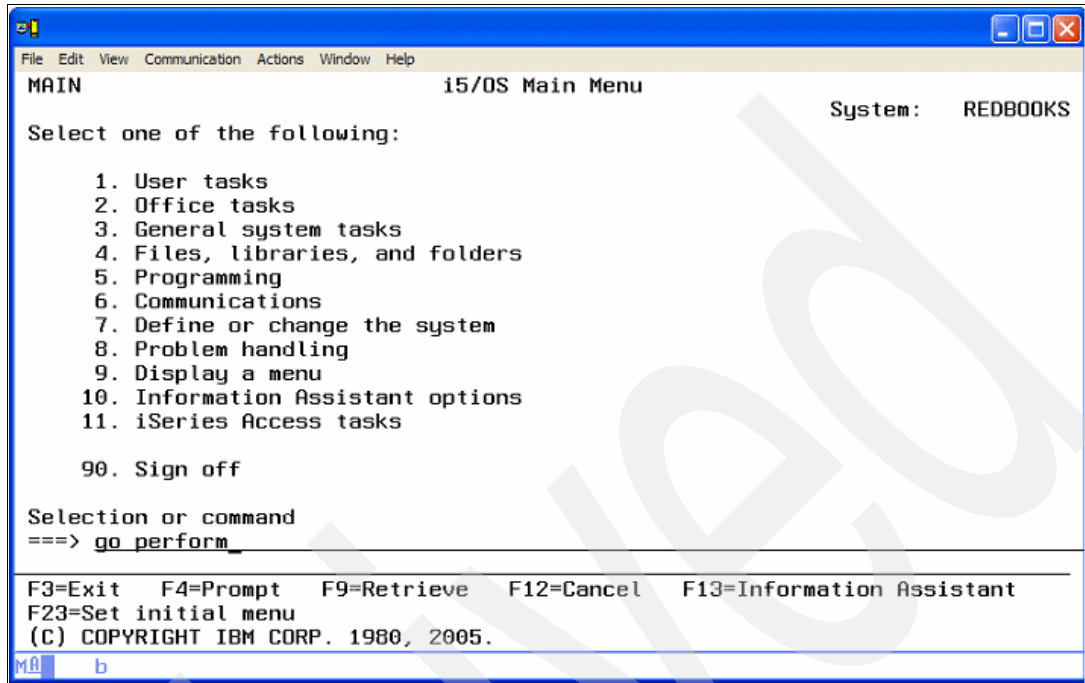

Figure A-18 Performance tools invocation
1. Enter the **go perform** command to open the Performance Tools main menu (Figure A-18).